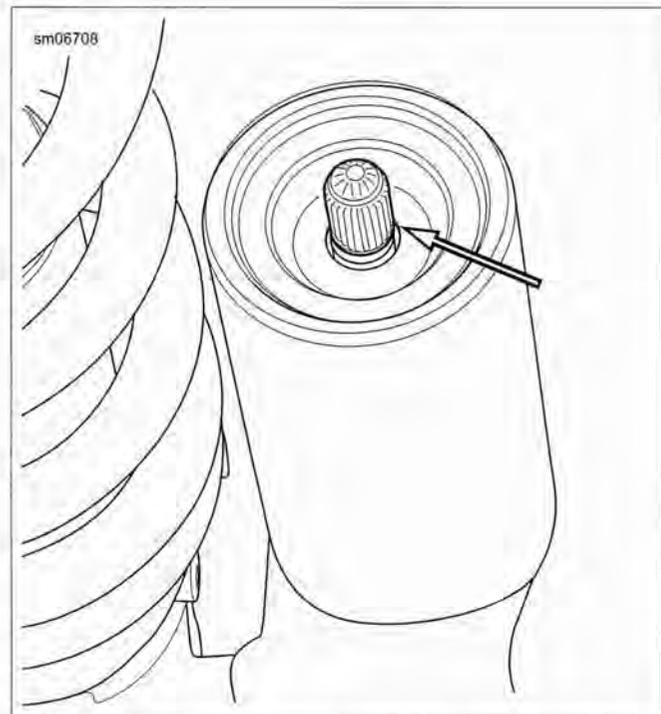

Figure 2-166. Schrader Valve Location: XR 1200X
2. See Figure 2-166. Locate the valve.